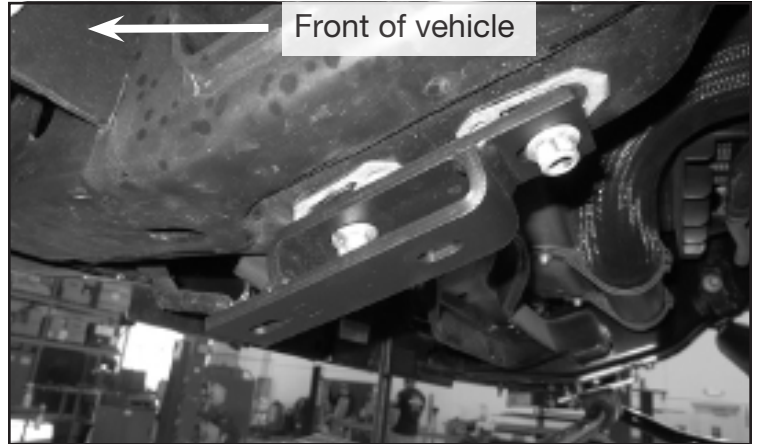

FIGURE 21 - STEP 22
22. Install FT31098 (Sway bar drop brackets) to the factory location using the factory nuts. **NOTE: Slide bracket forward until it stops.** Torque to 54 ft-lbs. **SEE FIGURE 21**